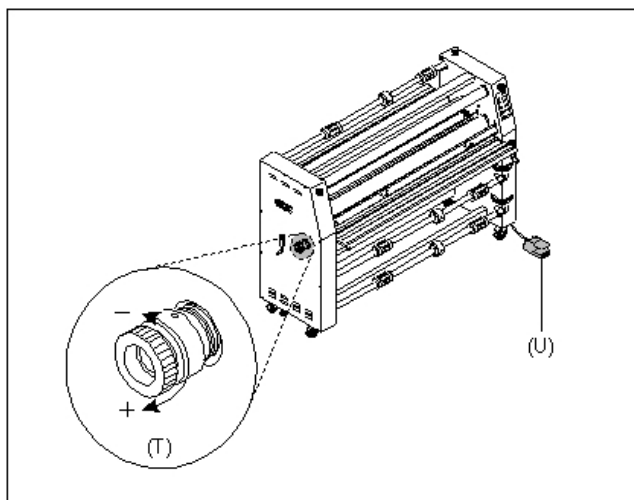

Fig 16
U. CLUTCH: (Figure 16) Used to increase or decrease pull roller clutch tension. Clockwise rotation will increase clutch tension while counterclockwise rotation decreases clutch tension.
V. FOOTSWITCH: (Figure 16) When the Run/Stop footswitch is pressed and all safety shields are in place, the laminator will run at current speed setting. With safety out, speed is reduced to 1 mpm (approximately 3.25 ft/m).